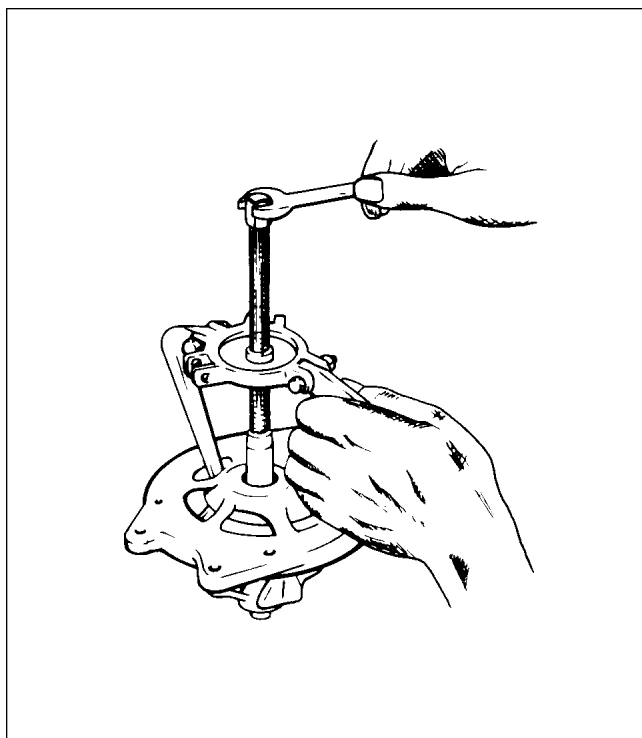
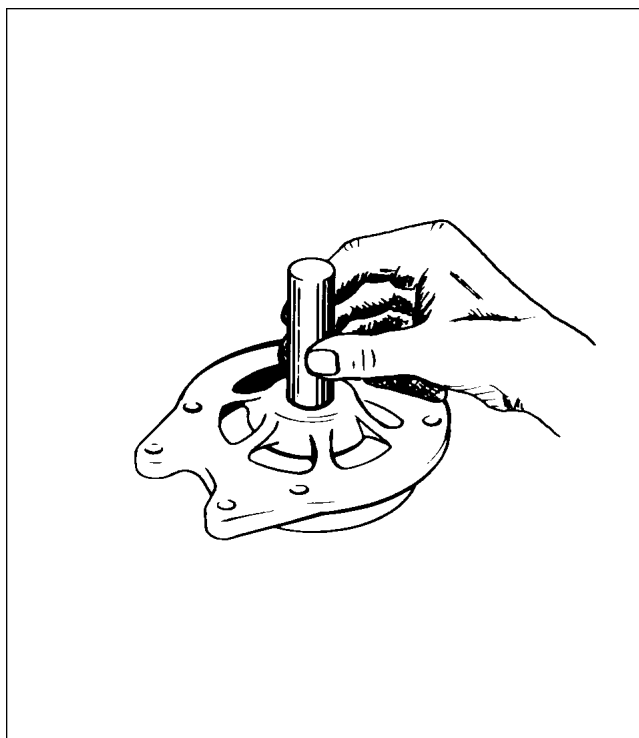

Figure 24-46. Removal of Drive End Head
Figure 24-47. Removal of End Head Bearing
- f. To remove drive end head from rotor shaft, use a puller that grips on bearing retainer plate as in Figure 24-46. Do not attempt to remove by supporting end head and pressing on shaft, as this may result in distortion of end head or stripping of retainer plate screws. Remove three retainer plate screws and press bearing out of end head. (Refer to Figure 24-47.)